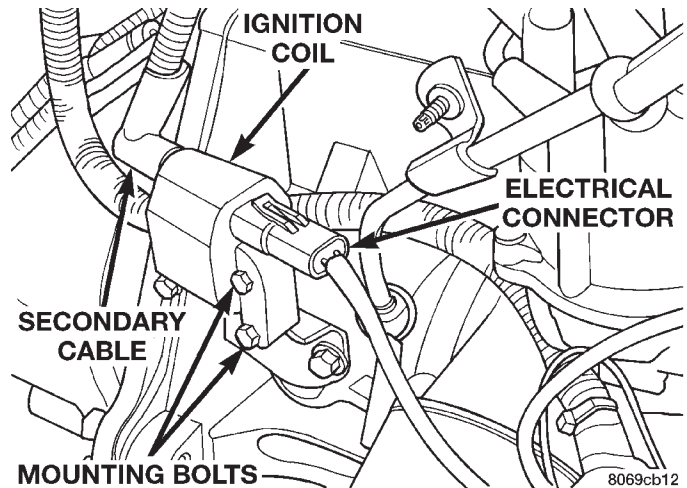
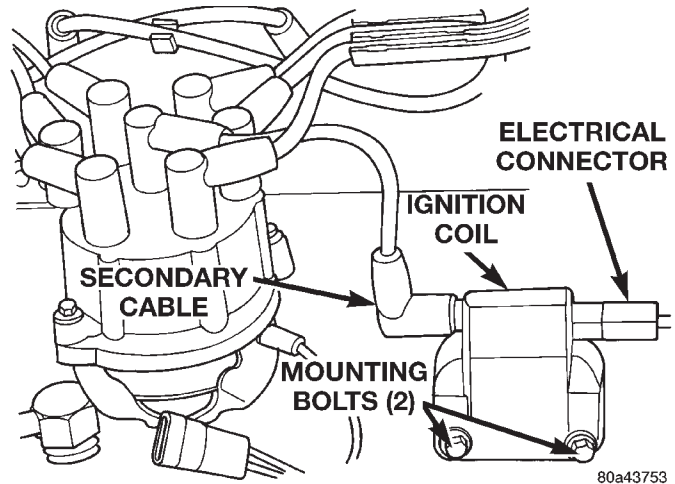

Fig. 17 Ignition Coil—2.5L Engine
Fig. 18 Ignition Coil—4.0L Engine
(4) Inspect ignition coil connections. Verify coil secondary cable is firmly connected to coil (Fig. 17) or (Fig. 18).
(5) Verify that distributor cap is correctly attached to distributor. Be sure that spark plug cables are firmly connected to the distributor cap and spark plugs are in their correct firing order. Be sure that coil cable is firmly connected to distributor cap and coil. Be sure that camshaft position sensor wire connector (at distributor) is firmly connected to harness connector. Inspect spark plug condition. Refer to Group 8D, Ignition. Connect vehicle to an oscilloscope and inspect spark events for fouled or damaged spark plugs or cables.